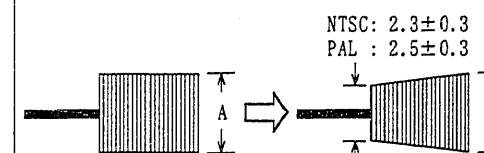
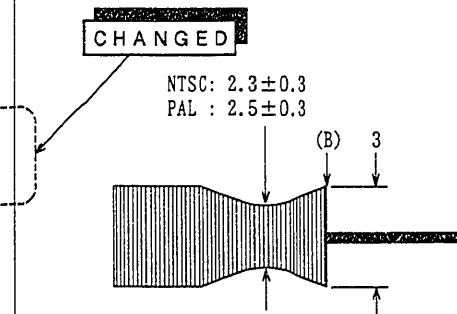

Fig. 4-1
Fig. 4-2
### 4. ADJUSTMENT AFTER REPLACING THE CYLINDER (Figs. 4-1, 4-2)
<p>● Adjustment procedure</p> <p>Caution: Before performing this adjustment, refer to Fig. 6-1 and modify the ATF-R jig.</p> <p>1) After inserting the alignment tape which was completely rewound, set the camera/recorder to the test mode by the following procedure. [Procedure to set to the test mode] ① Remove the power supply from the camera/recorder. ② Set the CAMERA/OFF/VCR switch to VCR position. ③ Check that the ATF-R jig (SW1: OFF, SW3: ON) is connected and then press the playback button and hold it, then supply the power again to the camera/recorder.</p> <p>&lt;Note&gt; 1. If the mechanical block operates (enters the playback mode) simultaneously when the power is supplied again, the camera/recorder does not enter the test mode. Restart from step (1) again. 2. The test mode is released when the power supply is removed from the camera/recorder.</p> <p>2) Connect an oscilloscope to TP3 on the ATF-R jig and press the PLAY button.</p> <p>3) Synchronize the oscilloscope with TP1 (SW25/30) on the ATF-R jig.</p> <p>4) Set the oscilloscope to (+) slope.</p> <p>5) Press SW2 on the ATF-R jig and hold it, then perform the following steps.</p> <p>6) Adjust the voltage level control of the oscilloscope so that portion (A) of the waveform is set to 4 graduations.</p> <p>7) Set SW1 on the ATF-R jig to ON.</p> <p>8) Turn RT1 on the ATF-R jig counterclockwise so that portion (A) of the waveform is set to 3 graduations.</p> <p>9) Adjust the height of the supply guide roller so the minimum amplitude of the waveform is set to NTSC: <math>2.3 \pm 0.3</math> / PAL: <math>2.5 \pm 0.3</math> graduations. (See Fig. 4-1)</p> <p>10) If this cannot be confirmed, adjust the height of the supply guide roller, referring to "3-3. Supply/Take-up Guide Roller Height Adjustment".</p> <p>11) Set the oscilloscope to (-) slope.</p> <p>12) Turn RT1 on the ATF-R jig counterclockwise so the voltage at point (C) on the ATF-R jig is <math>1.8 \pm 0.1V</math>. Then check that point (B) of the waveform is set to 3 graduation.</p> <p>13) Check that the minimum amplitude of the waveform is set to NTSC: <math>2.3 \pm 0.3</math> / PAL: <math>2.5 \pm 0.3</math> graduations. (See Fig. 4-2) If this cannot be confirmed, adjust the height of the take-up guide roller, referring to "3-3. Supply/Take-up Guide Roller Height Adjustment".</p> <p>14) Perform the following electrical adjustments. • Head switching point adjustment • Record luminance/chroma level adjustment Caution: After adjustment is complete, be sure to reverse the modification to ATF-R jig.</p>